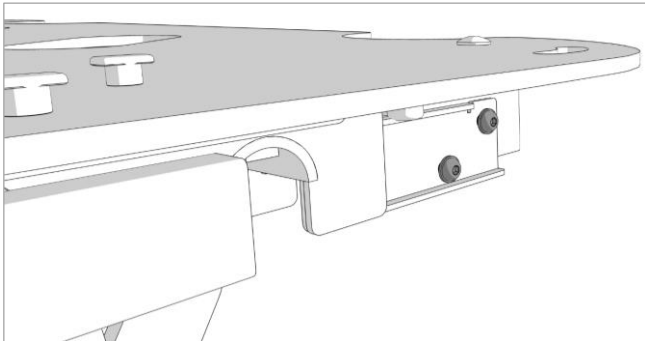
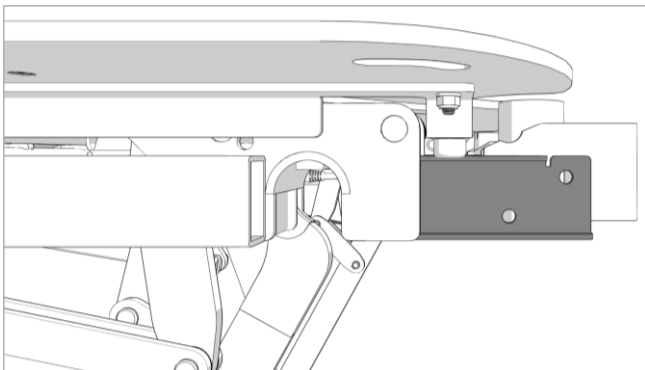

Figure 8.3
Figure 8.4
5. Remove the M8x16mm Long Button Head screws and M8 Washers from the CPR Lever mounting brackets as shown in Figure 8.3. Locate the CPR Lever Brackets, M8x16mm Long Button Head screws, M8 Washers, and the 6mm Allen Key. The CPR Lever Brackets are installed at the head end of the bed, on mounting brackets on both sides of the bed as highlighted in Figure 8.4